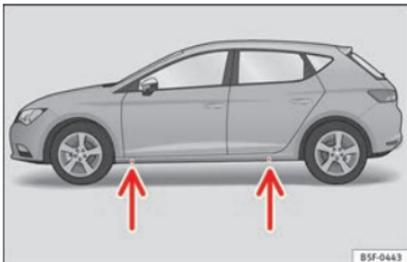

Fig. 186 Crossbar: marks.
- Find the support point on the strut (sunken area) closest to the wheel to be changed >>> Fig. 186. The jack* support point is behind the mark on the strut.